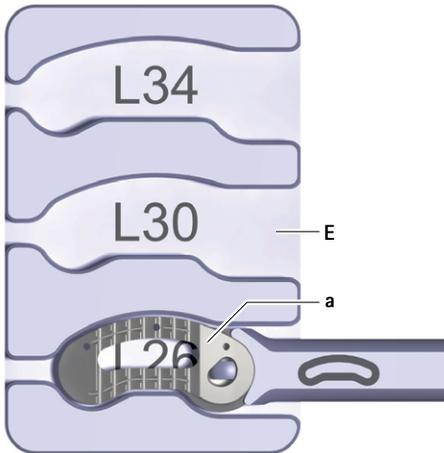

Fig. 9 Implant in filling holder
- ▶ Place the implant **a** in the filling holder **E**, see Fig. 9. When doing so, observe the implant length (marking on the filling holder: L26/L30/L34).